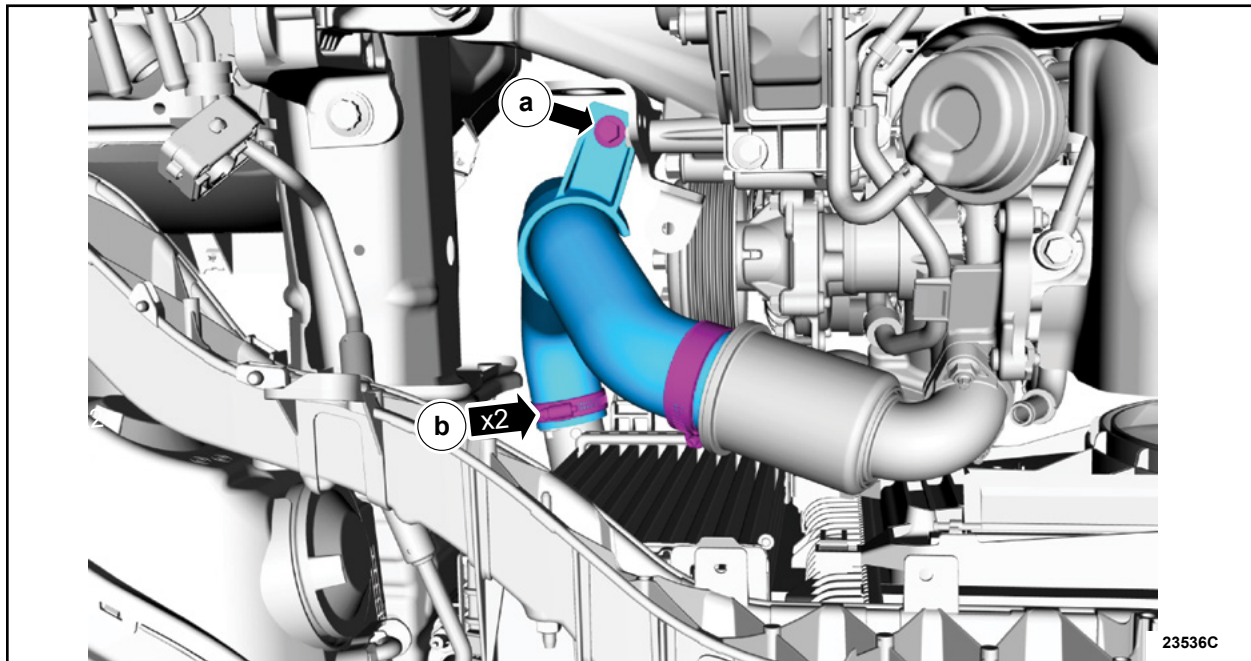

FIGURE 3
9. Remove the charge air cooler (CAC) inlet pipe. See Figure 3.